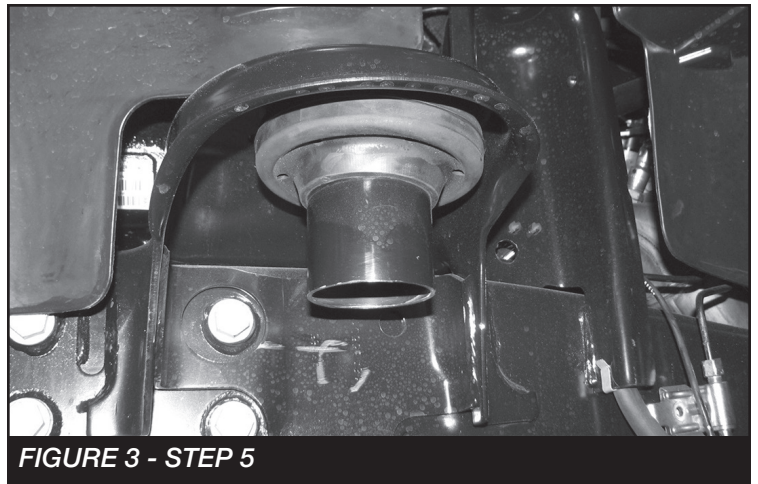

FIGURE 3 - STEP 5
5. Using a cut-off wheel or Sawzall, Cut the bumpstop off at the marked line. Sand and paint all bare areas. **SEE FIGURE 3**